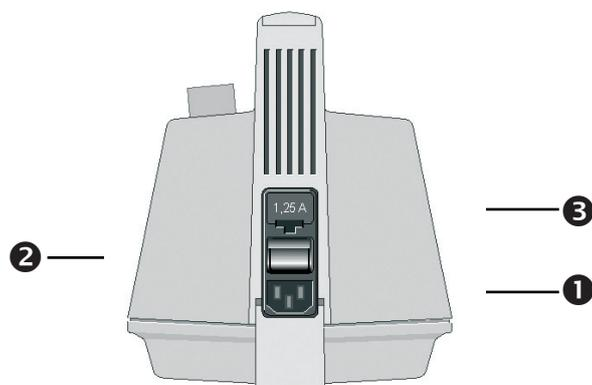

Fig. 2. Rear view of the ATMOS LC 16
- Connect the power cable (①, fig. 2) to the power attachment and the power plug to the local power socket.
- Start the unit with the switch (②, fig. 2).
Changing fuse (fig. 2)